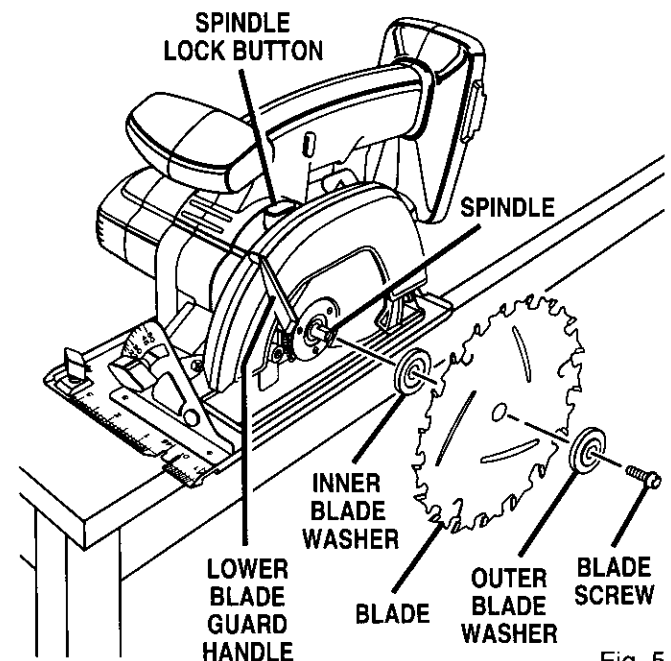

Fig. 5
- Depress spindle lock button and remove blade screw and outer blade washer. See Figure 5.
- Fit saw blade inside lower blade guard and onto spindle. **Note:** The saw teeth point upward at the front of saw as shown in figure 5.
- Remove outer blade washer. *See Figure 5.*